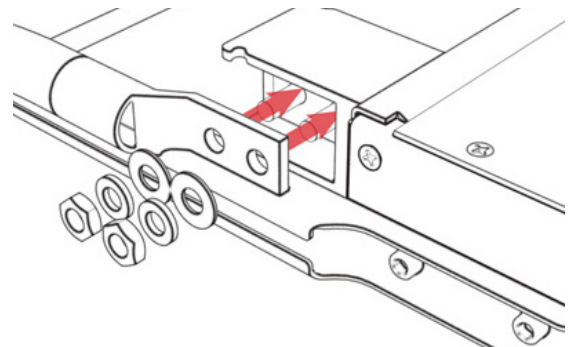

Figure 10. RTN input
Step 1. Secure the RTN input cables/lugs to the RTN input studs located on the rear of the panel (see Figure 10). Ensure that all hardware is tightened.